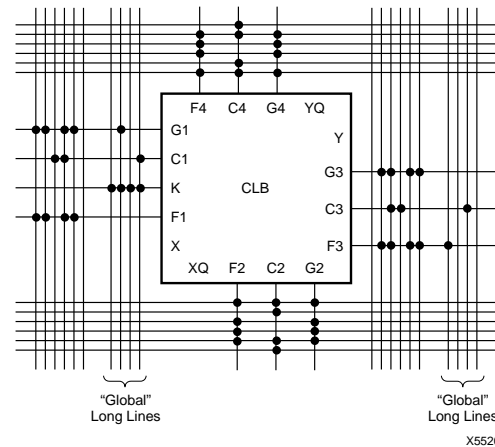

Figure 3-2 Global Longlines Resource CLB Connections
You should use the global buffer routing resources primarily for high-fanout clocks that require low skew, however, you can use them to drive certain CLB pins, as shown in Figure 3-2. In addition, you can use these routing resources to drive high-fanout clock enables, clear lines, and the clock pins (K) of CLBs and IOBs.
In Figure 3-2, the C pins drive the input to the H function generator, Direct Data-in, Preset, Clear, or Clock Enable pins. The F and G pins are the inputs to the F and G function generators, respectively.